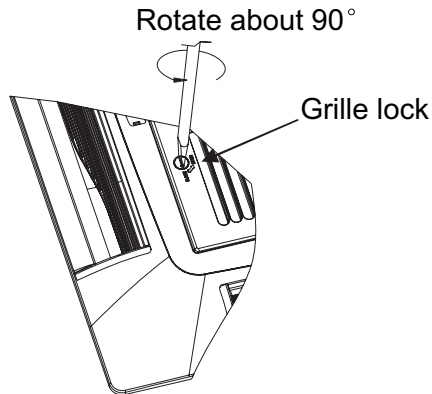

Fig.22
1. To open the grille, rotate the grille lock counterclockwise from horizontal position to vertical position.(fig.22)